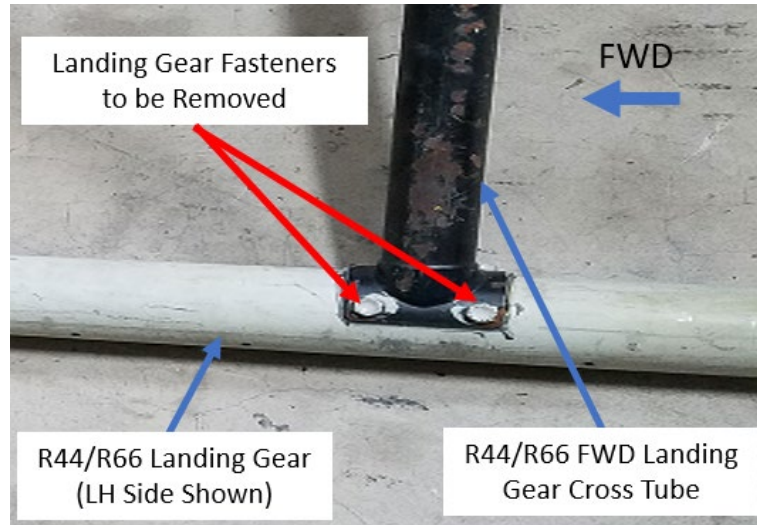

Figure 4. Exterior leg mounting bolts (at forward cross tube)
4. Using 9/16" ratchet remove exterior two bolts from forward Landing Gear Cross Tube to Skid Tube attachment shown in Figure 4. They will be replaced with the NAS6606-7 hex bolts used to attach the LHA-44-005 Aft Attachment Bracket.